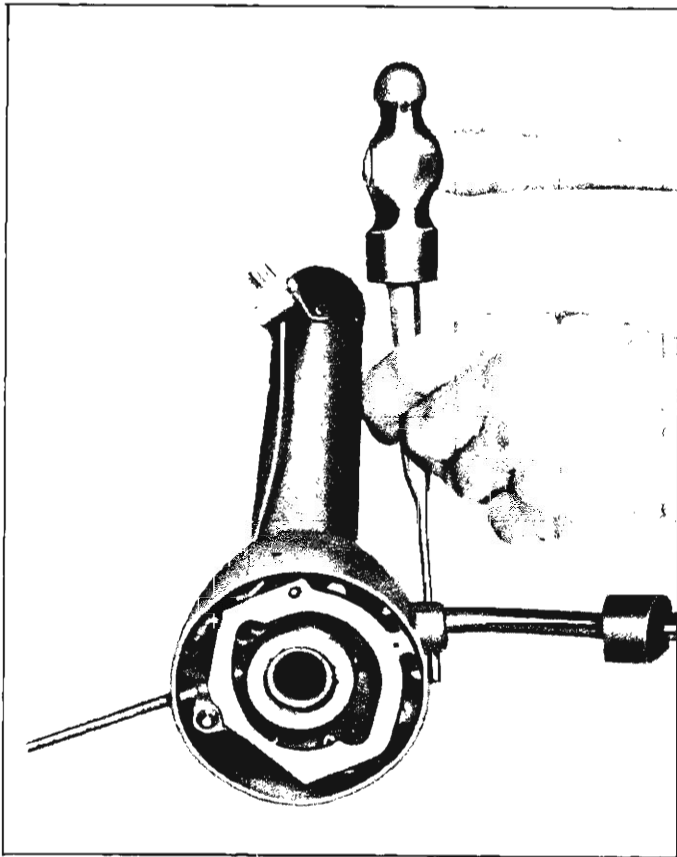

Fig. 16—Removing Pivot Pin
- Slide rubber grommet back from lever support housing, drive out selector lever pivot pin and remove shift lever and anti-rattle spring (fig. 16).
housing, drive out selector lever pivot pin and remove shift lever and anti-rattle spring (fig. 16).